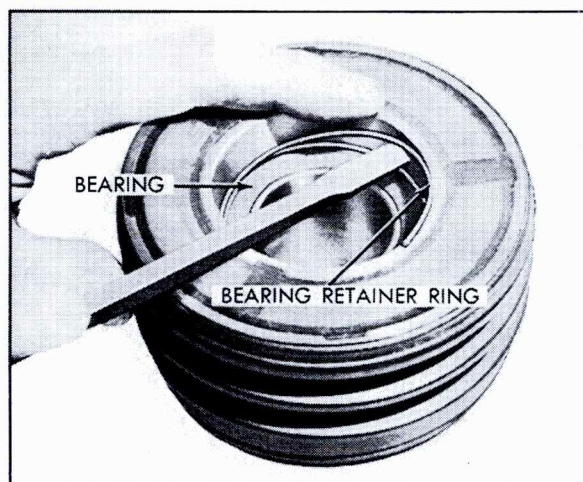

Fig. 1-45 Removing Pulley Bearing Retainer Ring
3. Remove pulley bearing retainer ring with a small screwdriver or pointed tool, Fig. 1-45.